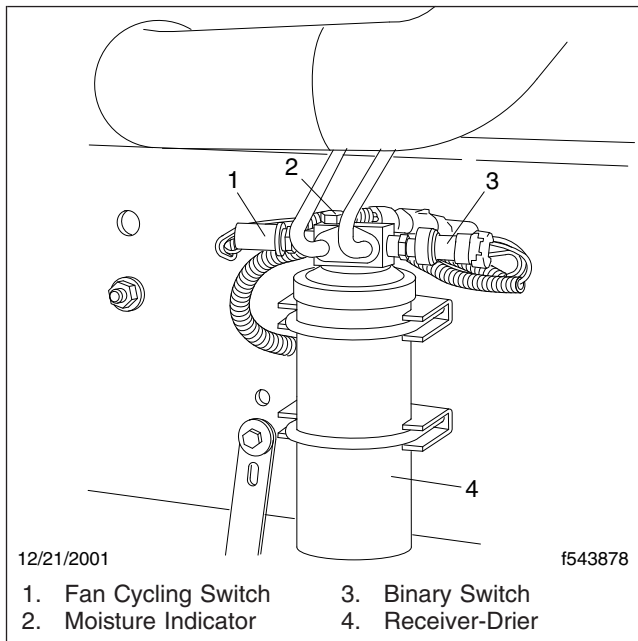

Fig. 1, Receiver-Drier
12. Check the moisture indicator on the receiver-drier. See **Fig. 1**. If the indicator is a deep cobalt blue, the refrigerant charge is dry. If the indicator is not blue, the system is contaminated with water. If the system is contaminated, recover the refrigerant, replace the receiver drier, evacuate the system, and add a full refrigerant charge. For instructions, see **Section 83.00**, Subject 220 of the *Business Class® M2 Workshop Manual*.